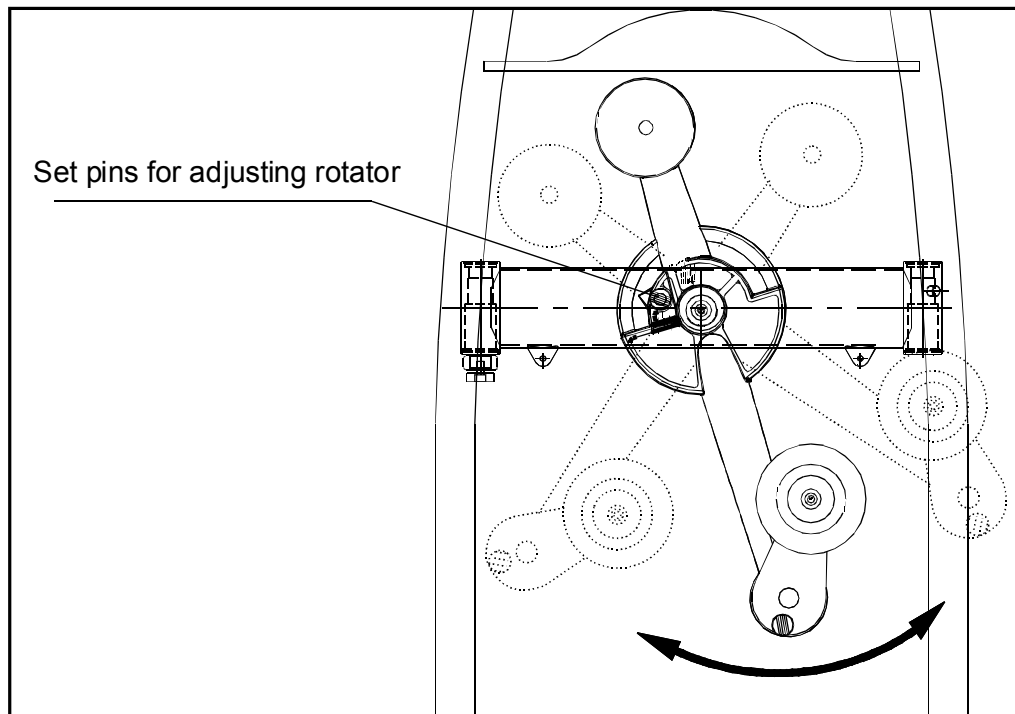

Fig.6
1. Set pin for adjusting rotator is for adjusting the rotator to the initiative position which is suitable for the user. (See fig.6)